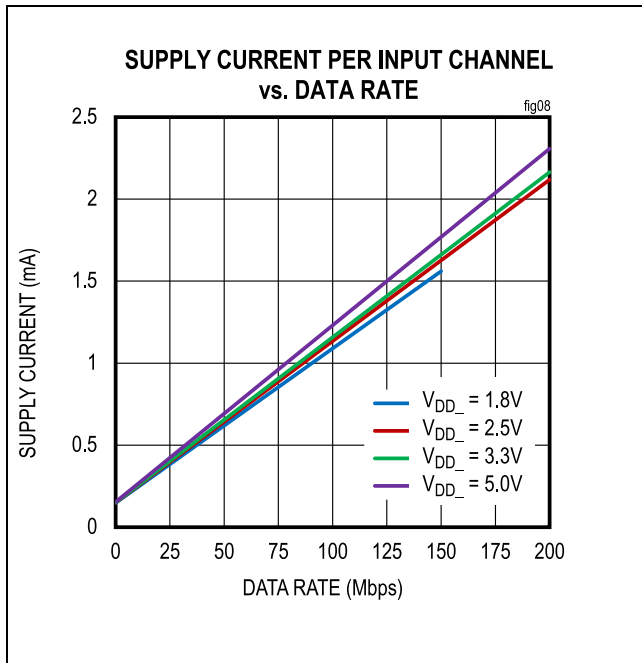
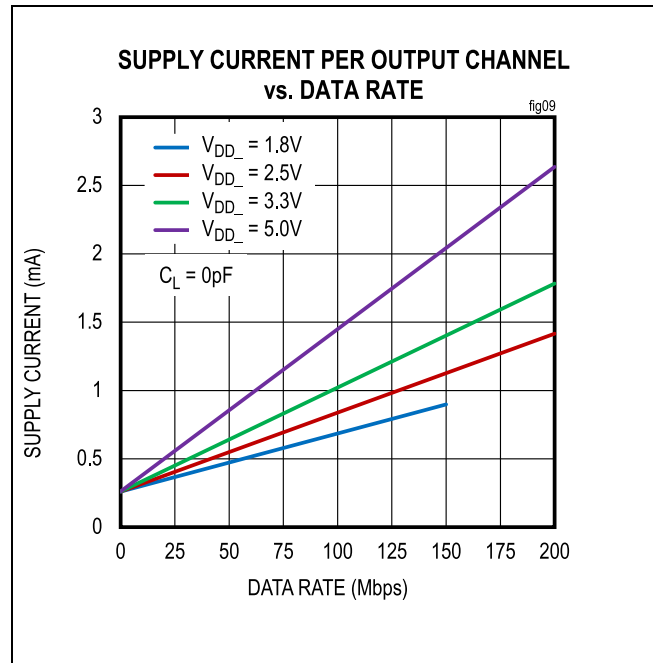

Figure 8. Supply Current per Input Channel (Estimated)
Figure 9. Supply Current per Output Channel (Estimated)
The required current for a given supply (V_{DDA} or V_{DDB}) can be estimated by summing the current required for each channel. The supply current for a channel depends on whether the channel is an input or an output, the channel's data rate, and the capacitive or resistive load if it is an output. The typical current for input or output at any data rate can be estimated from the graphs in Figure 8 and Figure 9. Note that the data in Figure 8 and Figure 9 are extrapolated from the supply current measurements in a typical operating condition.
The total current for a single channel is the sum of the no-load current (shown in Figure 8 and Figure 9), which is a function of voltage and data rate, and the load current, which depends on the type of load. Current into a capacitive load is a function of the load capacitance, the switching frequency, and the supply voltage.
- Channel 1 is an output channel operating at 2.5V and 100Mbps, consuming 0.84mA, estimated from Figure 9.
- Channel 2 is an input channel operating at 2.5V and 20Mbps, consuming 0.35mA, estimated from Figure 8.
- Channel 1 is an input channel operating at 3.3V and 100Mbps, consuming 1.16mA, estimated from Figure 8.
- Channel 2 is an output channel operating at 3.3V and 20Mbps, consuming 0.41mA, estimated from Figure 9.